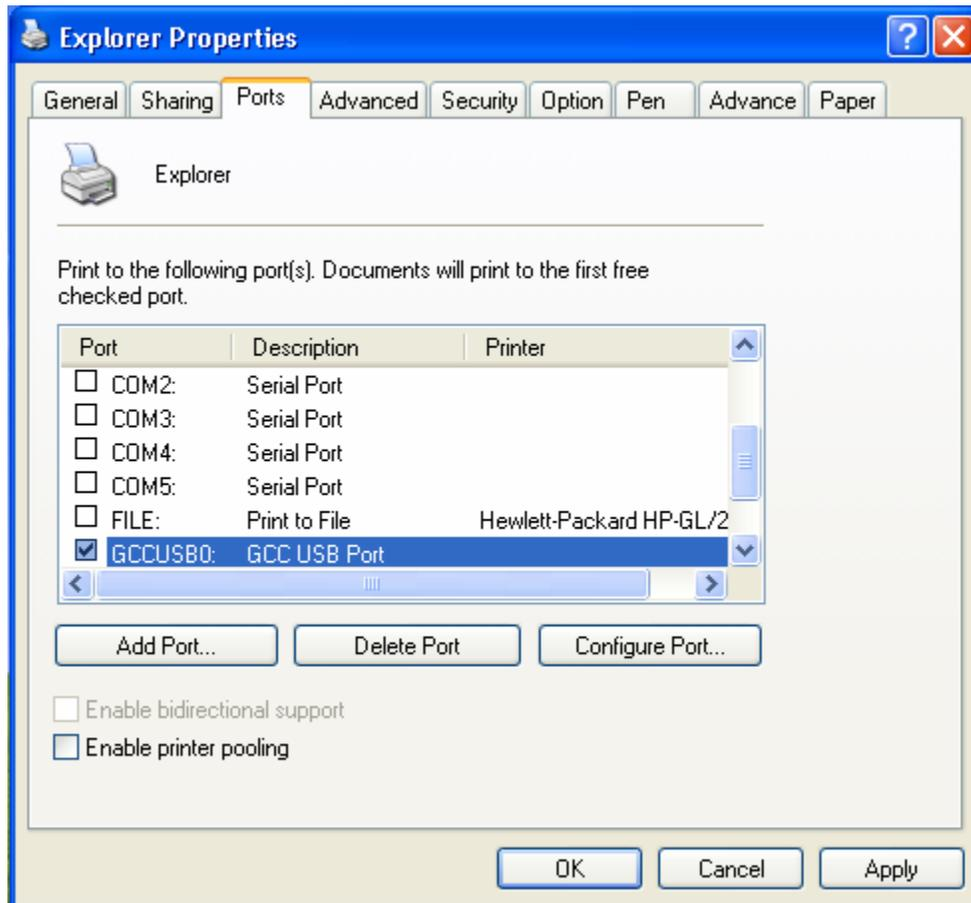

Fig 4-16 Print Driver Installation
STEP19: Go to the Ports, and choose the GCCUSB0 to enable the USB transmission, and click OK to finish the installation. (see fig. 4-16)